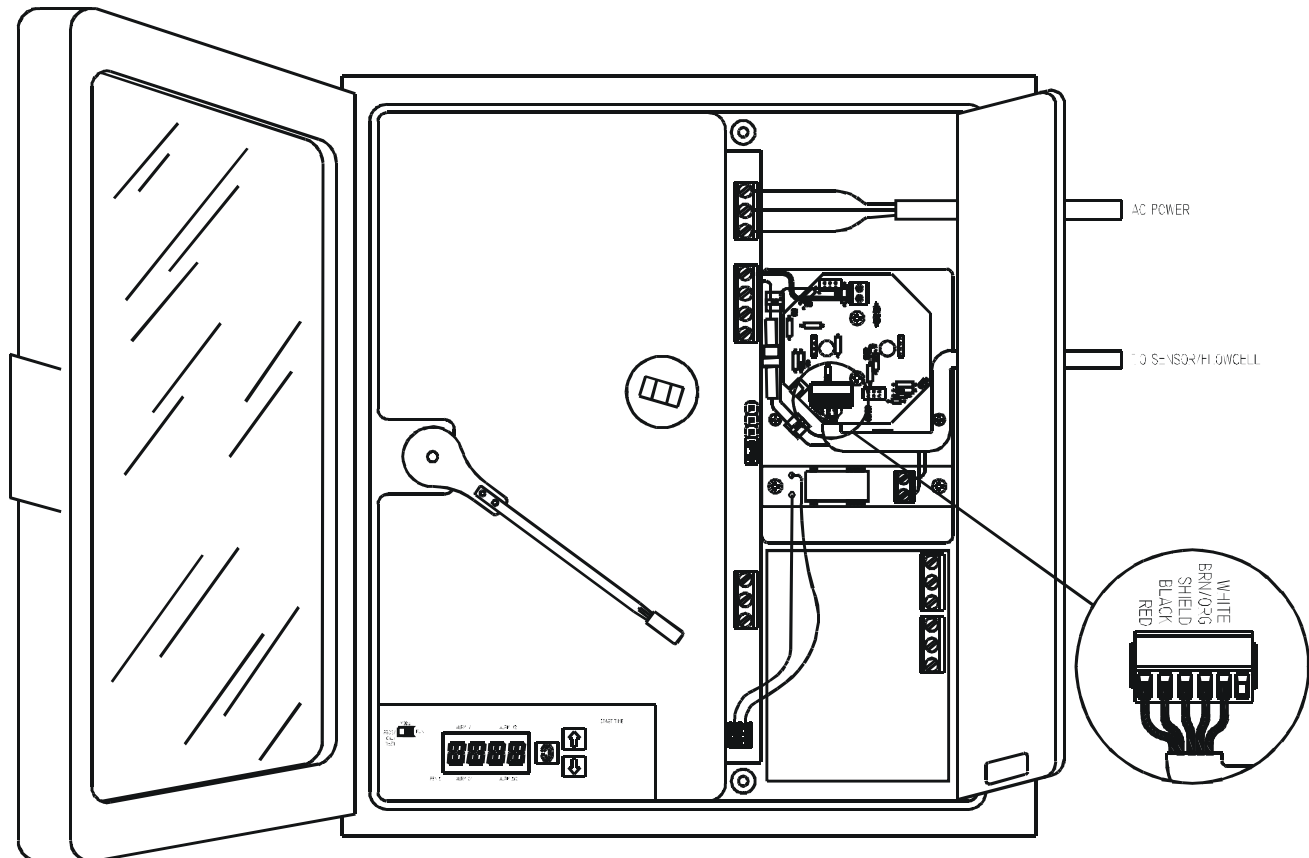
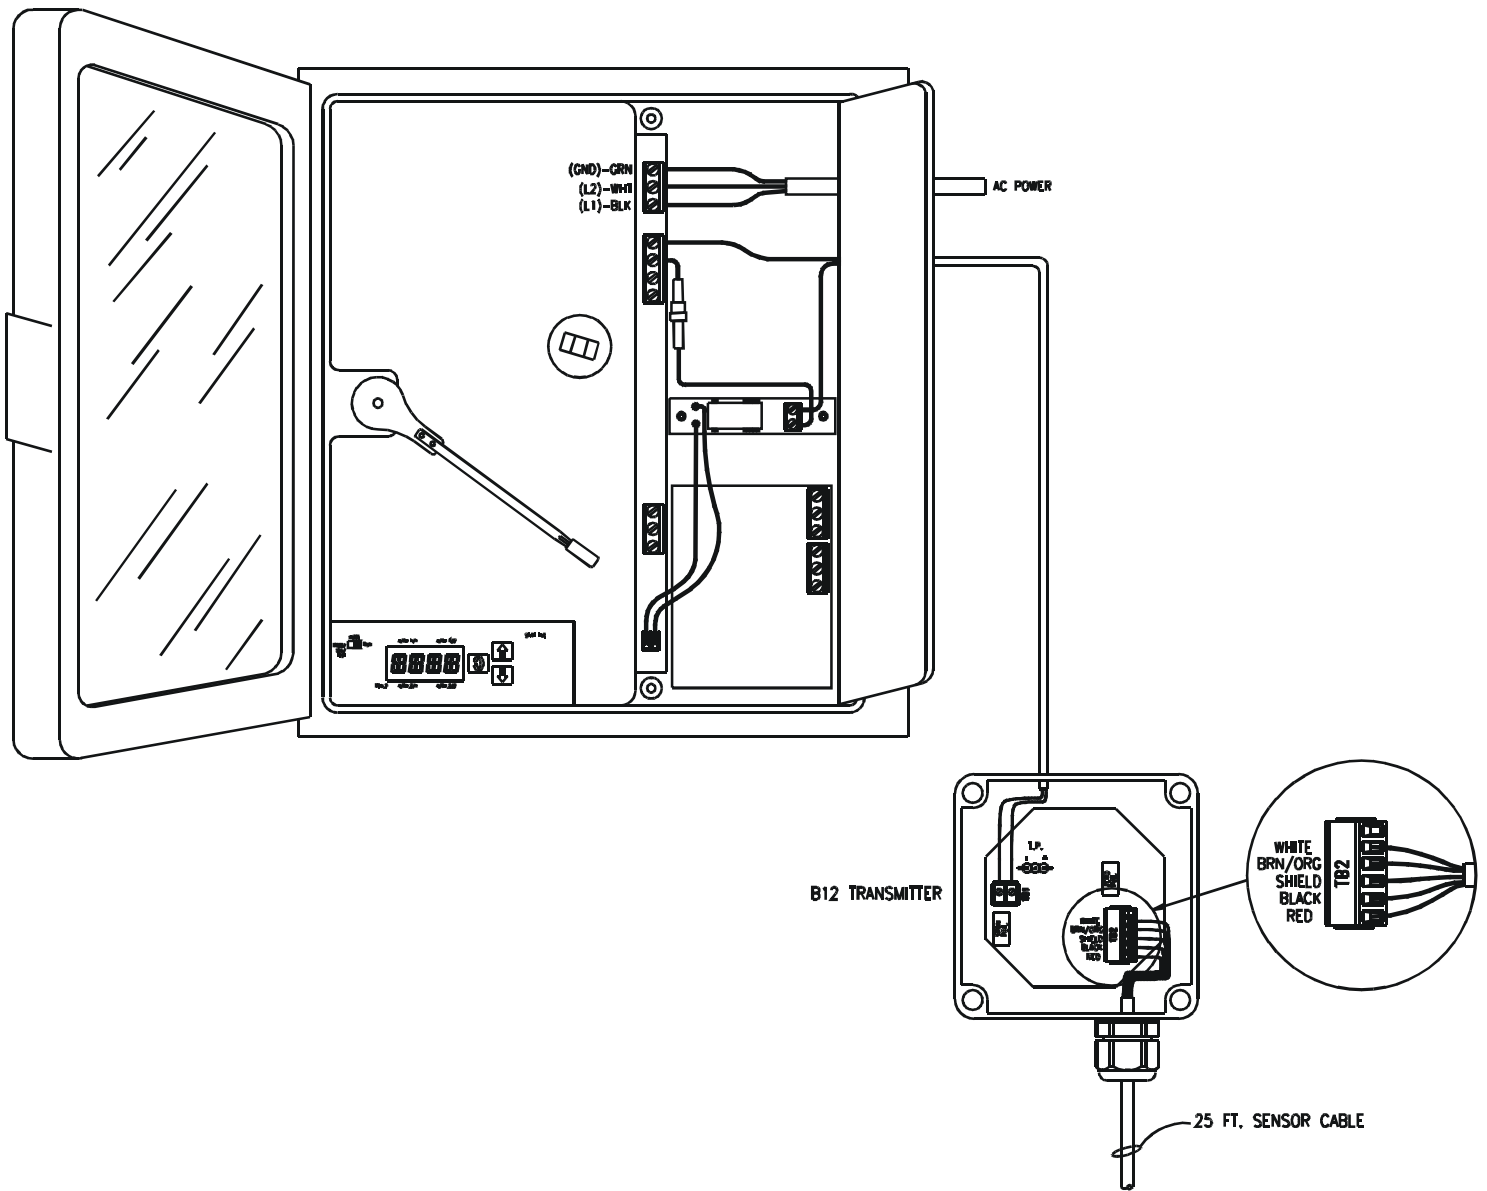
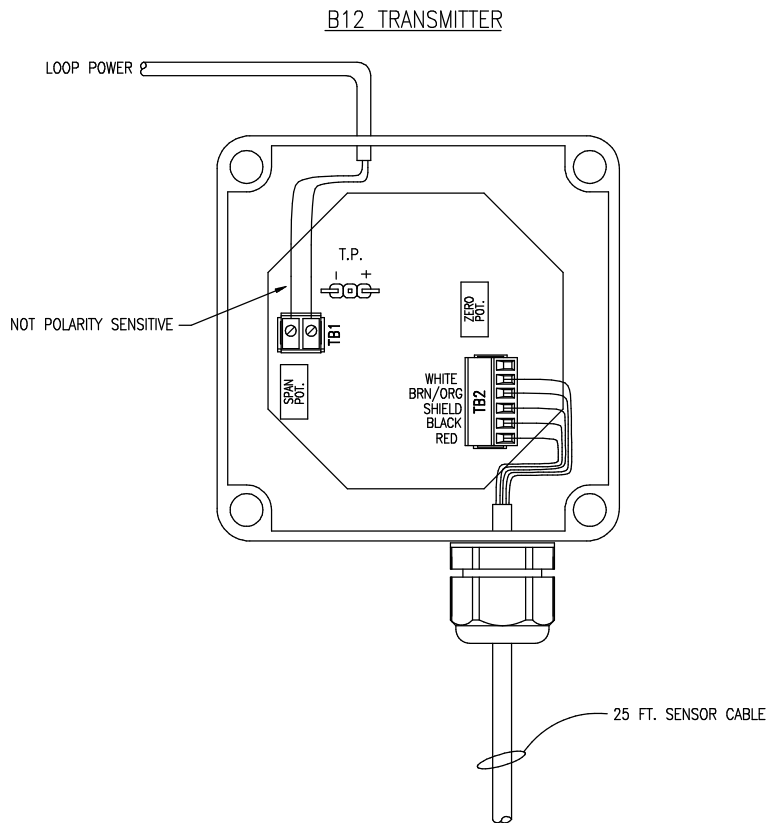

Figure 7 - Recorder Customer Connections with Internal Transmitter (ATI-0134)
Figure 8- Recorder Customer Connections with Remote Transmitter (ATI-0135)
Figure 13 - Transmitter Test Points, Zero, & Span Potentiometers (ATI-085)
All electrical connections are made inside the recorder unit. Refer to Figure 7 below for the proper connections. A power cord is supplied with each unit for AC connection and a 5 conductor shielded interconnect cable is supplied for connection of the chlorine sensor to the recorder. Refer to Figure 8 for interconnection of a system with remote chlorine amplifier.
Once the sensor has had sufficient time to stabilize, the zero and span of the system must be set. Establishing a stable zero is critical to the proper operation of the recorder and should always be done before setting the span. The zero and span potentiometers used for adjustment of the B20 recorder are located on the transmitter circuit board located behind the right half of the recorder chart plate. See Figure 7 for the location of the transmitter. Figure 13 below shows the position of the zero and span potentiometers on the transmitter board. They are the same whether the transmitter is internal to the recorder or external.
2. Using the span potentiometer (see Figure 13), adjust the LED display value to the value measured by the laboratory test. If your unit is supplied with a remote transmitter, use the Test Point Voltage equation to calculate the proper voltage at the test points of the transmitter. The transmitter output is between .040V and .200 V, proportional to span at the test point.